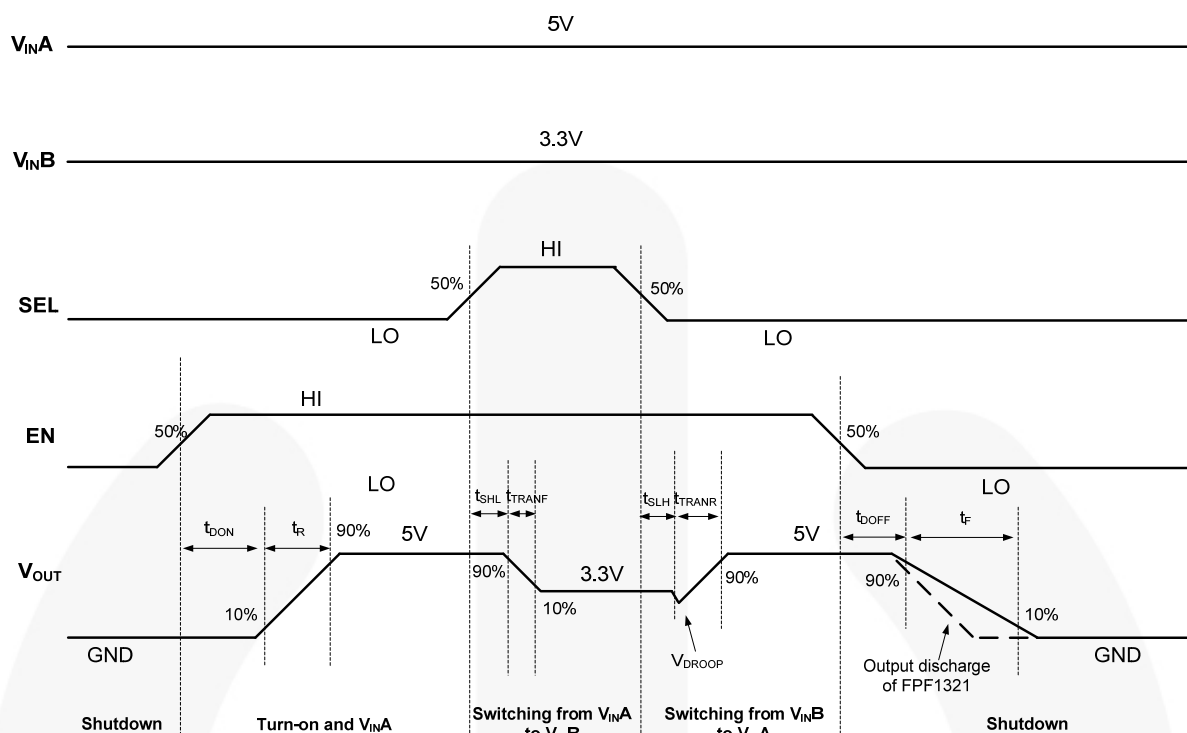

Figure 5. Dynamic Behavior Timing Diagram
- $t_{\text{DON}}/t_{\text{DOFF}}/t_R/t_F/t_{\text{TRANR}}/t_{\text{TRANF}}/t_{\text{SLH}}/t_{\text{SHL}}$ are defined in Figure 5.